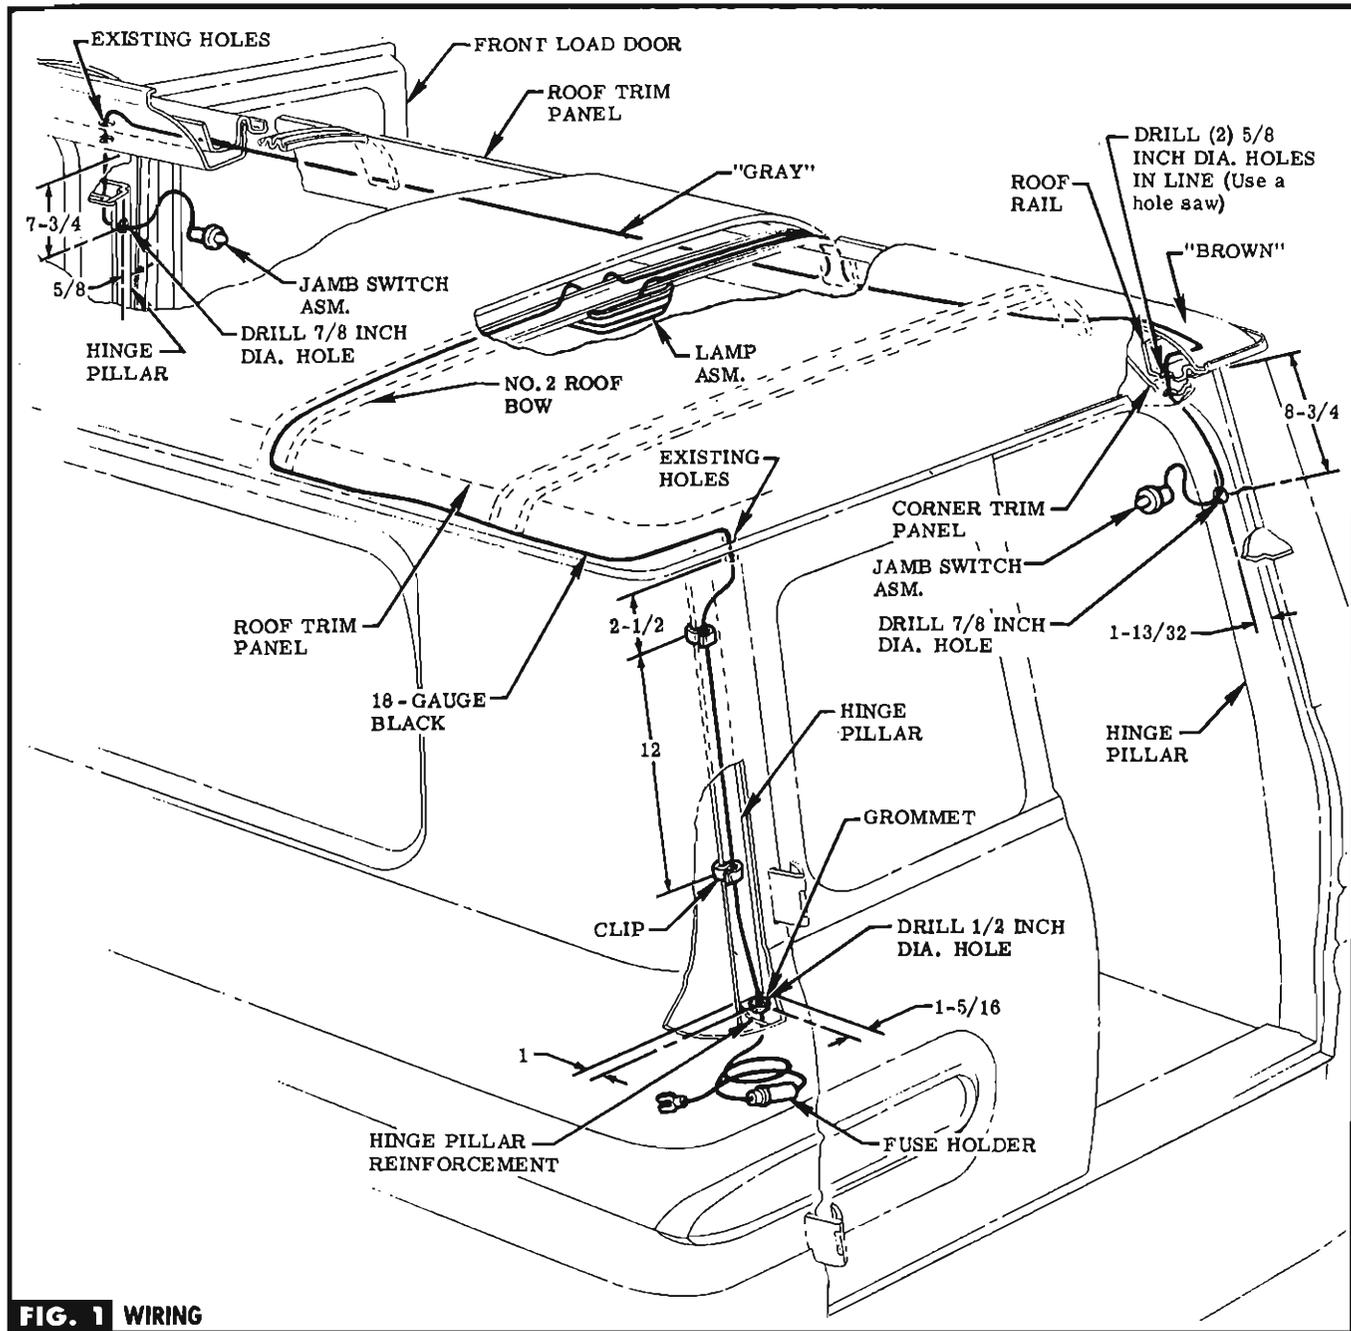

FIG. 1 WIRING
STEP 2 LOCATE, CENTER PUNCH, & DRILL HOLE IN L. H. REAR DOOR HINGE PILLAR REINFORCEMENT, SEE FIG. 1.
STEP 3 PUSH BARE END OF WIRE ASM. THRU GROMMET & SLIDE GROMMET ALONG WIRE TO A POINT ABOUT (12) INCHES FROM FUSE HOLDER. THREAD BARE END OF WIRE THRU DRILLED HOLE FROM UNDER REINFORCEMENT. THEN CLIP WIRE TO PILLAR & ROUTE TO FRONT OF SECOND ROOF BOW FROM REAR. SEE FIG. 1. USE STIFF WIRE TO ASSIST ROUTING THRU HOLES & AROUND CORNERS.
STEP 5 LOCATE, CENTER PUNCH, & DRILL HOLES IN R. H. FRONT LOAD DOOR & R. H. REAR DOOR HINGE PILLARS. SEE FIG. 1.